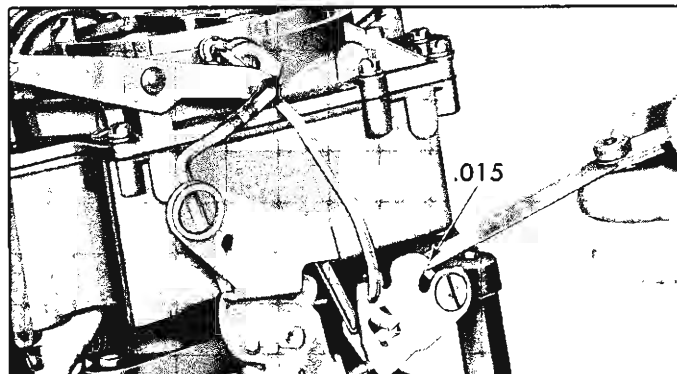

Fig. 24—Checking Secondary Throttle Lockout Adjustment
- **Secondary Throttle Lockout Adjustment**—With choke valve closed so that secondary lockout tang is in the fast idle cam slot, check clearance between fast idle cam and tang (fig. 24). Proper clearance should be .015". Bend tang horizontally, using J-4552 bending tool.